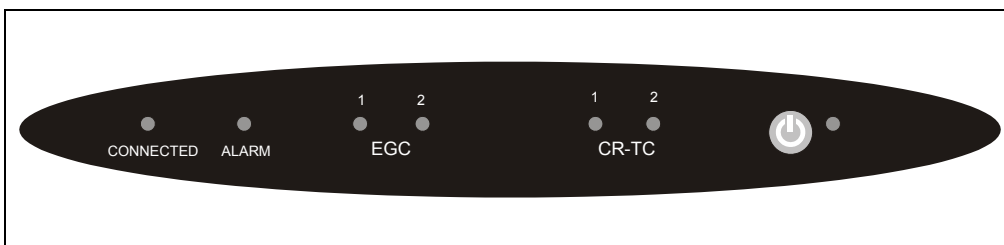

Figure 2-7. EG Status Bar
The status bar on the front of the ICS-3000 Eluent Generator (EG) includes buttons that provide control of certain EG functions, as well as LEDs that indicate the status of several EG functions (see Figure 2-7).
NOTE For routine on/off control, use the **POWER** button on the front of the EG (see Figure 2-7). To turn off the EG, press and hold the **POWER** button for 2 seconds.